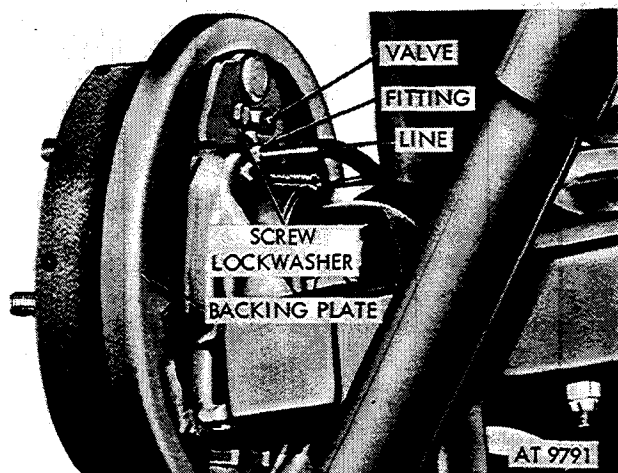

Figure 2-372. Remove wheel cylinder.
(3) Disconnect hydraulic brake line fitting from wheel cylinder. Remove bleeder valve (fig. 2-372).
(4) Remove brake shoe assemblies (para 2-173).
(5) Remove two screw and lockwasher assemblies securing wheel cylinder assembly to backing plate (fig. 2-372).